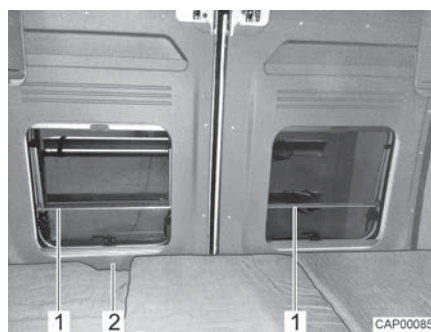

Fig. 32 Fall out protection (longitudinal rear bed)
- ▷ The windows of the rear doors are equipped with a fall out protection (Fig. 32,1). The garage door can always be unlocked from the interior via the opening (Fig. 33,2).